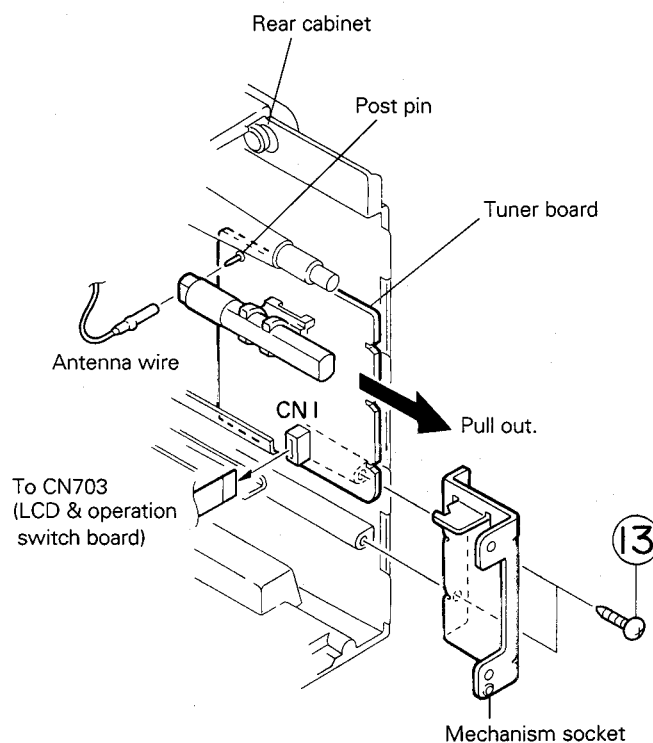

Fig. 5-15
■ Tuner board (Refer to Fig. 5-15.)
6. Remove two screws ⑬ retaining the mechanism bracket on the right side.